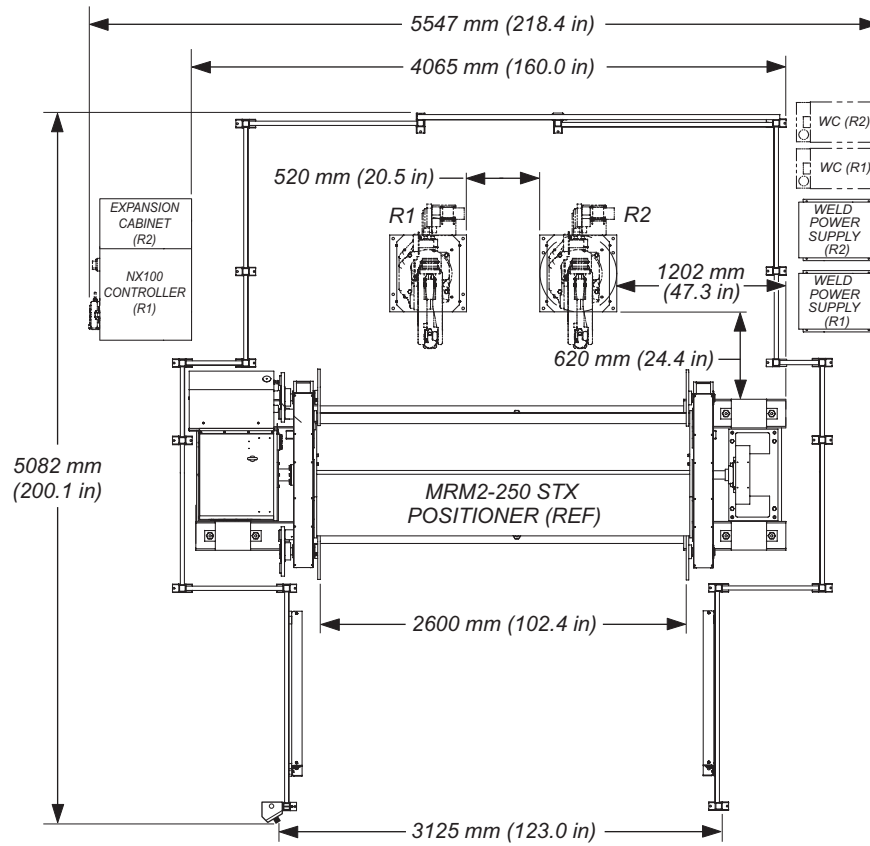
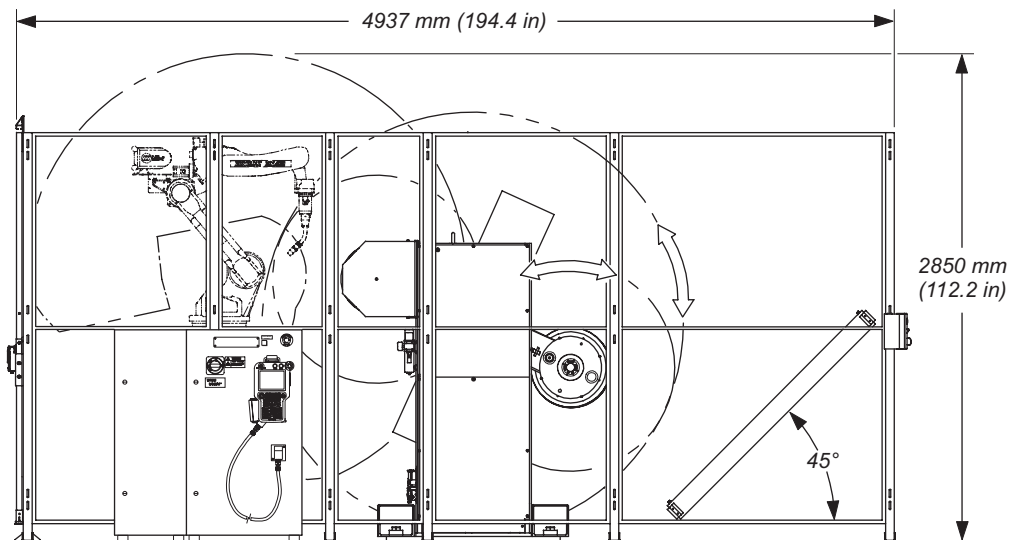
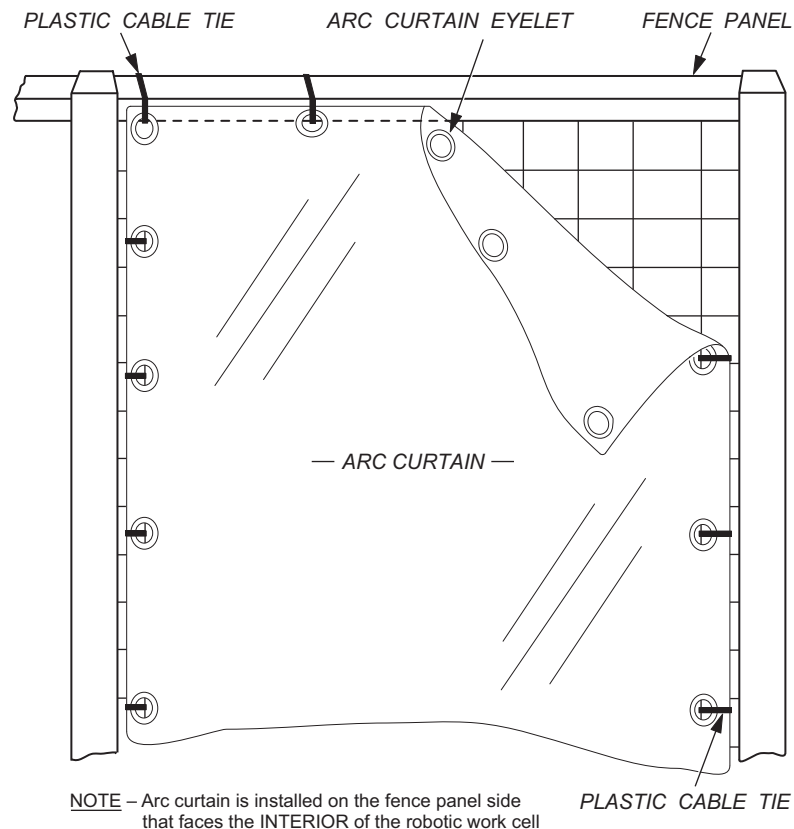

Figure 7 ArcWorld®II-6200 DRC – Installation Dimensions and Component Locations (Plan View)
Figure 8 ArcWorld®II-6200 DRC – Installation Dimensions and Component Locations (Elevation View)
Figure 11 Arc Curtain Installation on Typical Work Cell Safety Fence Panel
1. Clear floor space and overhead area needed for the ArcWorld[®]II-6200 DRC system (see Figure 7 and Figure 8). Allow an additional 1.2 - 1.5 m (4 to 5 ft) on all sides of the work cell to provide the clearance needed for installation.
To make sure the ArcWorld®II-6200 DRC work cell is complete and to verify the correct amount of floor space for the installation, Motoman recommends that all system components (except the safety arc curtains) be set in place prior to anchoring the components to the foundation. See Figure 7, and the system drawings supplied with your ArcWorld®II-6200 DRC system, to correctly place system components.
1. Place the MRM2-250 STX positioner to define the front of the cell (see Figure 7).
2. Place the robots (with risers) in the specified location relative to the positioner (see Figure 7).
3. Interconnect the safety fence panels and place them in position so that they enclose the work cell (see Figure 7 and refer to fence installation documentation that is supplied with the ArcWorld®II-6200 DRC system).
4. Ensure that the final placement of the assembled safety fence conforms to the placement dimensions shown in Figure 7.
5. Install the work cell sliding door to the safety fencing (refer to Figure 7 and the safety fencing documentation that is supplied with the ArcWorld®II-6200 DRC system).
7. Place the NX100–DRC controller assembly and welding power sources (see Figure 7 and the ArcWorld®II-6200 DRC system drawings for the correct location for these components).
1. Unfold each arc curtain and install one arc curtain on the inside of each work cell safety fence panel, using supplied plastic cable ties and the eyelets in each arc curtain (see Figure 7 and Figure 11).
3. Install the door panel arc curtain on the inside of the door panel, using the supplied plastic cable ties and the eyelets in the arc curtain (see Figure 7 and Figure 11).